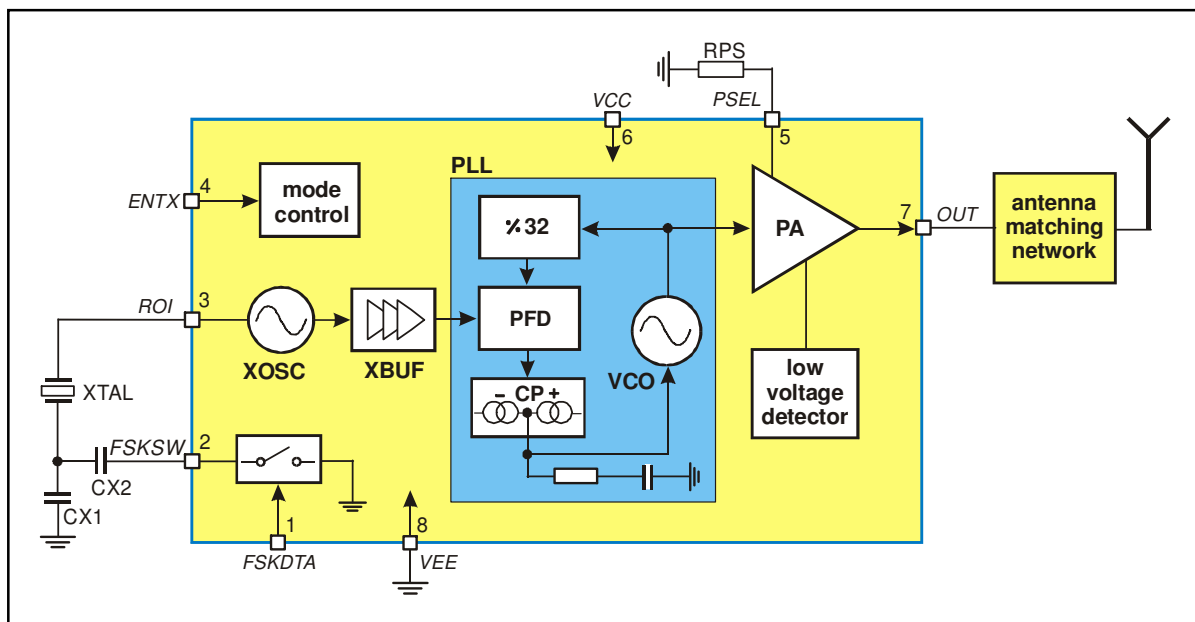

Fig. 1: Block diagram with external components
As depicted in Fig.1, the TH72011 transmitter consists of a fully integrated voltage-controlled oscillator (VCO), a divide-by-32 divider (div32), a phase-frequency detector (PFD) and a charge pump (CP). An internal loop filter determines the dynamic behavior of the PLL and suppresses reference spurious signals. A Colpitts crystal oscillator (XOSC) is used as the reference oscillator of a phase-locked loop (PLL) synthesizer. The VCO's output signal feeds the power amplifier (PA). The RF signal power P_{out} can be adjusted in four steps from $P_{out} = -12$ dBm to $+10$ dBm, either by changing the value of resistor RPS or by varying the voltage V_{PS} at pin PSEL. The open-collector output (OUT) can be used either to directly drive a loop antenna or to be matched to a 50Ohm load. Bandgap biasing ensures stable operation of the IC at a power supply range of 1.95 V to 5.5 V.